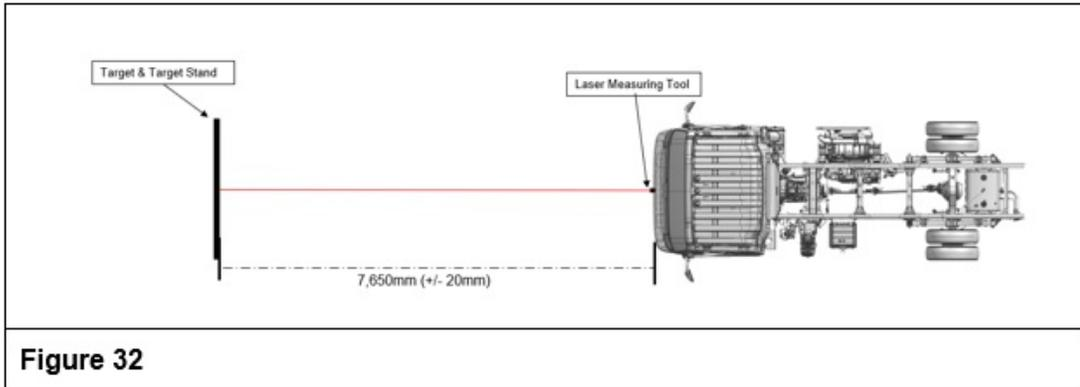

Figure 32
40. Using the Laser Measuring Tool, place the center of the Target 7,650 mm (+/- 20 mm) from the center of the front bumper cover. (See Figure 32.)